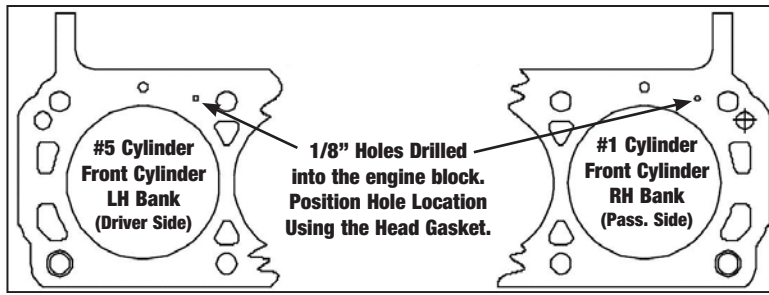

Figure 2 - Steam Hole Locations for Early 289 & 302 Blocks
1. Check the upper deck to see if you have an early or late model block (not needed with 351W): a) Late model 289-302 blocks have the water passages located next to the head bolt location on the deck of the block (This block **will not** require drilling). b) Early 289-302 blocks will have the water passages located directly over the cylinder upper deck area and will require drilling 1/8" steam holes as seen in **Figure 2**.